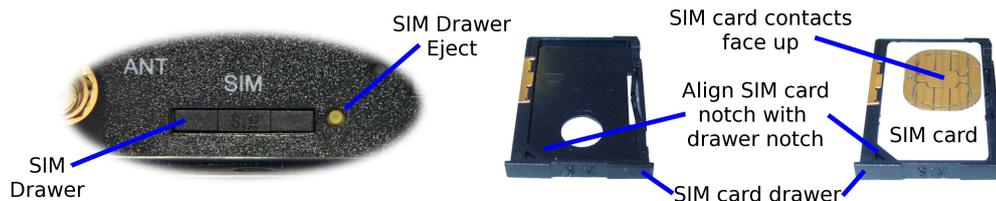

Figure 18: SIM card eject button.
- The SIM card drawer eject button is a small yellow button located next to the SIM drawer on the rear panel of the Series 9000. Refer to the image on the left of Figure 18 for the location of the SIM card eject button. To eject the SIM card drawer press the SIM card drawer eject button using a suitable tool and remove the drawer.
- Insert the SIM card into the SIM card drawer with the contacts facing up, as shown on the right of Figure 18.